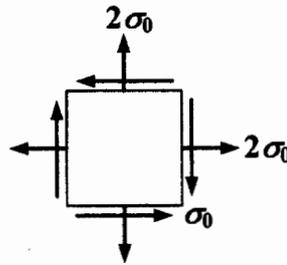

Fig. P1
- The material element as shown in Fig. P1 is under plane strain condition. Given that the Young's modulus and Poisson's ratio are E and ν , respectively, determine